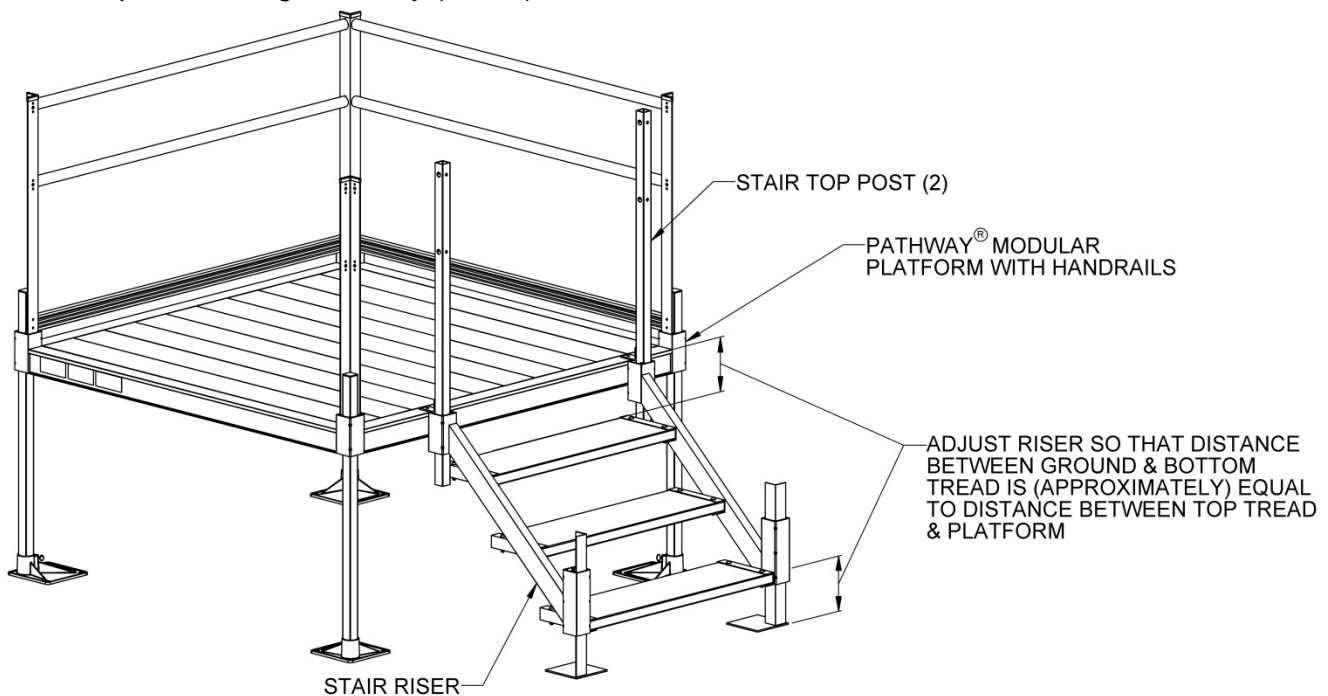

FIG. 6
- 3.3. Hang the stair assembly on the platform in the desired location. Adjust the vertical position of the riser on the legs and top posts by loosening and retightening the 3/8"-16 set screws in the riser corner pockets until the distance from bottom tread to ground is approximately the same distance from top tread to the platform walking surface and the stair treads are level. After the riser has been positioned and leveled, tighten all set screws in the corner pockets for stair top posts and legs securely (FIG. 6).